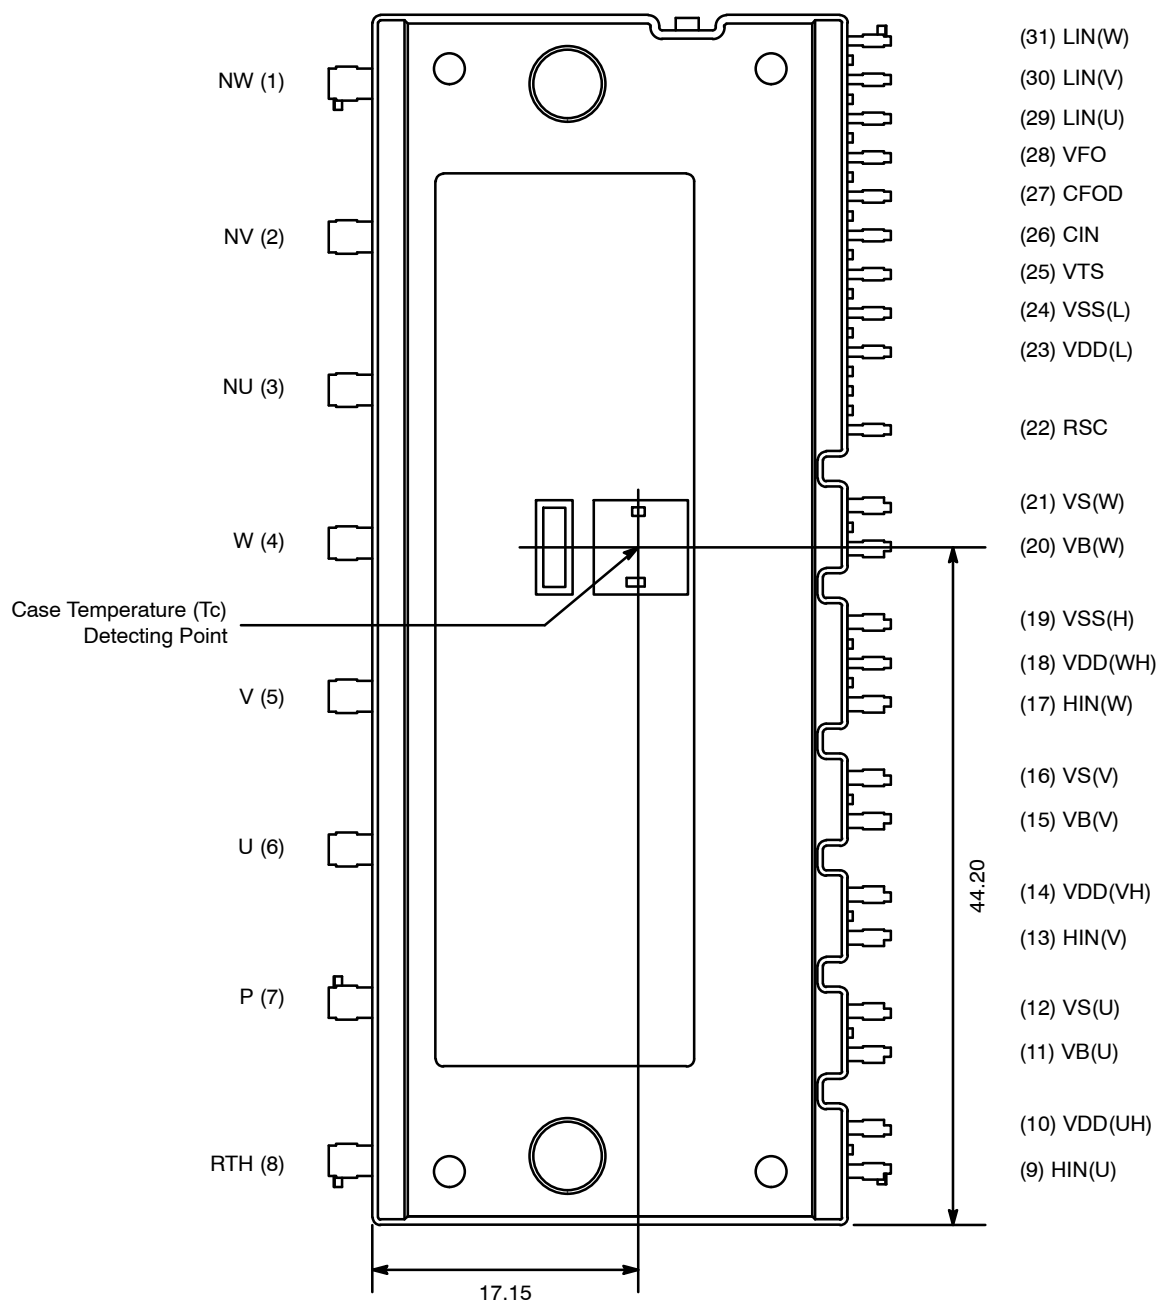

Figure 1. Pin Configuration – Top View
5. For the measurement point of case temperature (T_c), please refer to Figure 1. DBC discoloration and Picker Circle Printing allowed, please refer to application note AN-9190 (Impact of DBC Oxidation on SPM[®] Module Performance).